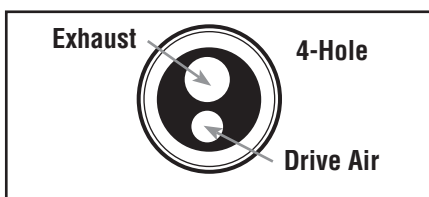

Figure 2
- Lubricate handpiece with one or two drops of Champ-Lube™ 20+. Place the lubricant cleaner in the drive air hole at the back of the handpiece (Figure 2).
- Lubricate the handpiece with one or two drops of Young Handpiece lube. Place the lubricant cleaner in the drive air hole at the back of the handpiece (Figure 2).
- Lubricate the handpiece with one or two drops of Champ-Lube™ 20+. Place the lubricant cleaner in the drive air hole at the back of the handpiece (Figure 2).